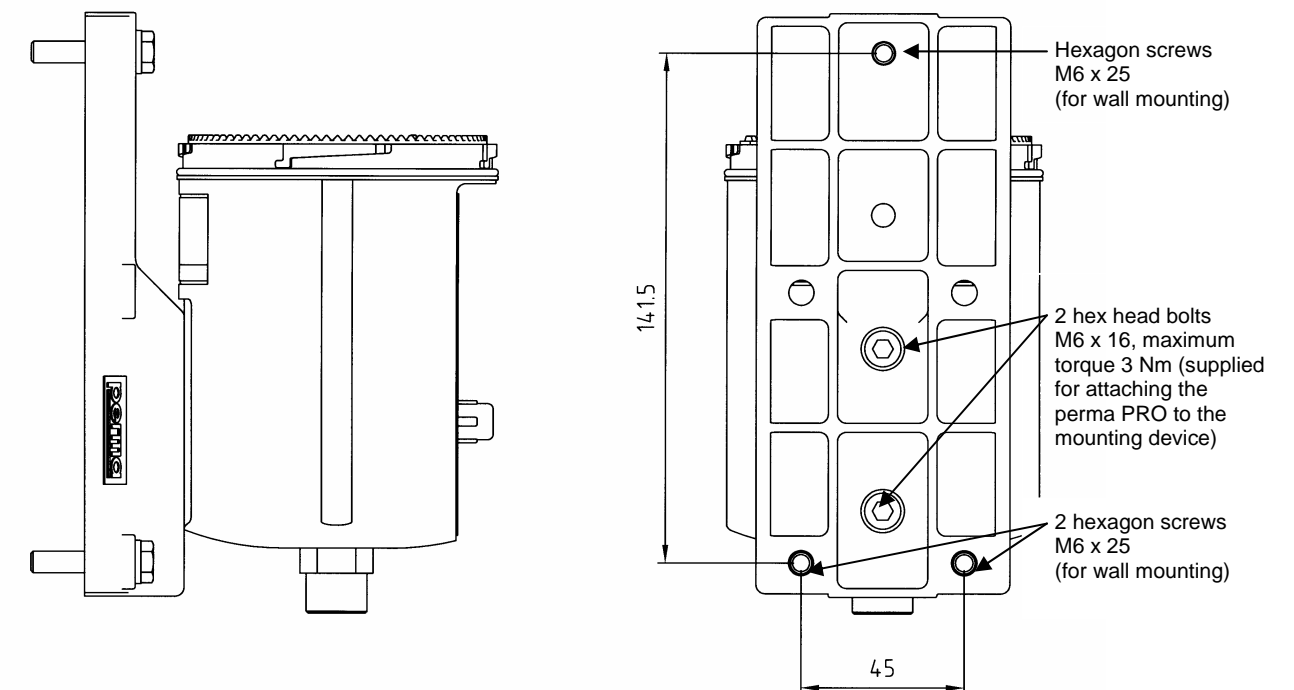

Figure 3
- ◆ Screw the mounting device with the drive unit onto a support of your system. For the position of the bores of the three fixing screws (141.5 x 45) refer to figure 3 below. You have to use at least three hexagon screws M6 x 25.